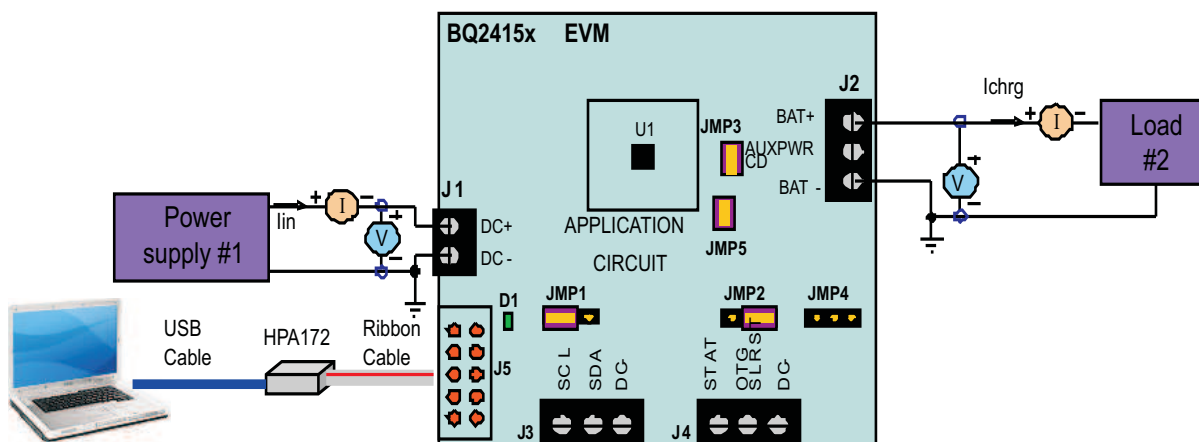

Figure 2. Charging Function Test Setup
8. After the preceding steps, the test setup for HPA697 is shown in Figure 2